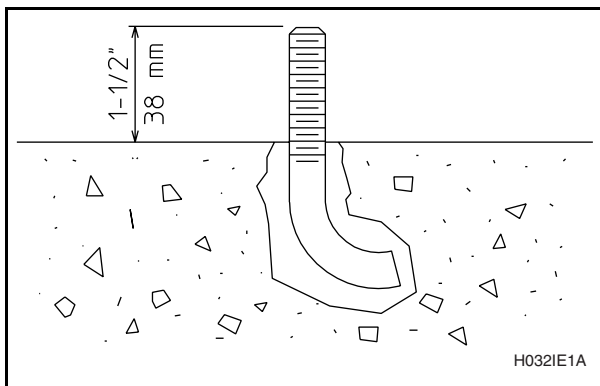

Figure 31
4. Use compressed air or a squeeze bulb to remove debris from each hole. Anchor J-bolt in place, using an industry-accepted anchoring compound. Verify that the J-bolts are in the correct locations and that 1-1/2 inches (38 mm) of each J-bolt protrude from the floor. See Figure 31.